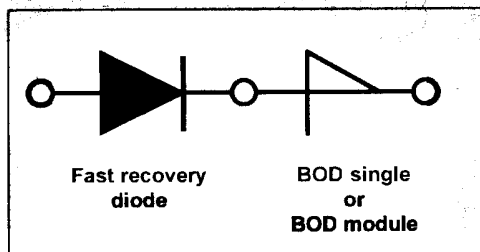

Fig. 9 BOD protection by a fast recovery diode.
2. For higher reverse voltages a fast, soft recovery diode must be connected in series (Fig. 9). This diode must fulfill the conditions of Fig. 10.